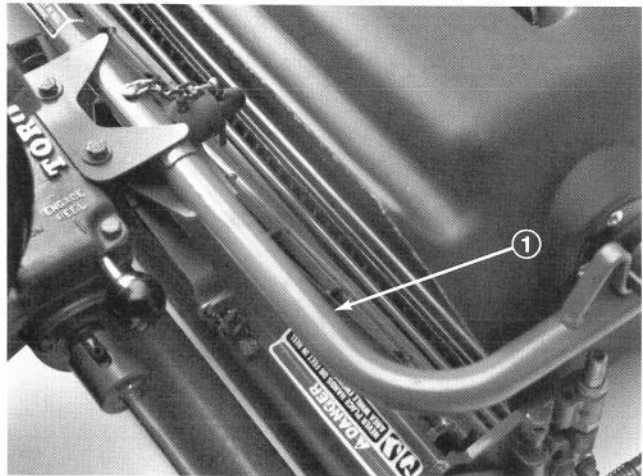

Figure 16
2. Measure distance between lip of basket and edge of cutting unit shield. There should be a clearance between the components of no more than 1/4 inch (6 mm) (Fig. 16). If the dimension is incorrect, adjust basket.